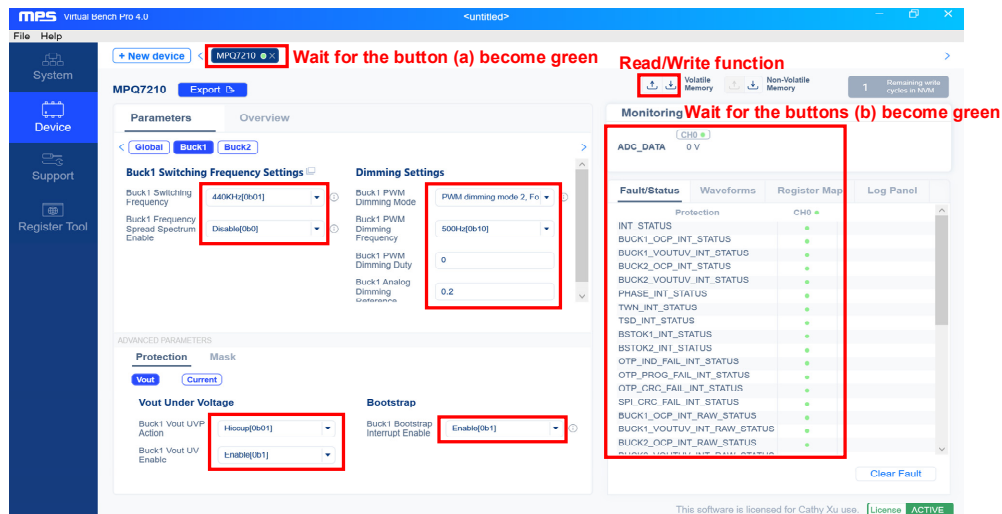

Figure 9: Read and Write in Virtual Bench Pro 4.0
15. Turn on VIN2 and the 12V power supply sequentially, then control MPQ7210 via Virtual Bench Pro 4.0. When the indicator toward the top of the window (see (a) in Figure 9) turns green, this means that the USB is connected. When indicator toward the right side of the window (see (B) in Figure 9) turns green, this means that the communication interface is connected to the EVQ7210-U-00A. Once all connections have been made, the registers can be read and written using the “Read” and “Write” buttons (see Figure 9).